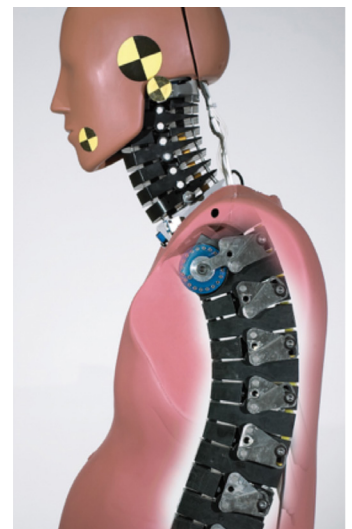

Figure 2
5. When the IIHS conducts rear-end crash tests of seats and head restraints, the front seat is removed from a vehicle and bolted to a steel sled. A special dummy is then belted into the seat. This special dummy, called a BioRID rear-impact dummy (see Figure 2), has a spine composed of 24 articulated vertebra-like pieces that produce the same movements that occur in human necks and spines during real-world rear-end vehicle crashes. The sled is then hit from behind by an air-powered ram while the sled is standing still.